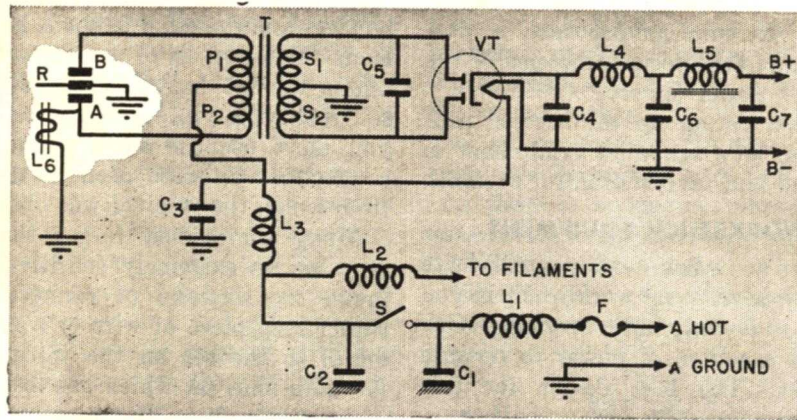

FIG. 30. A typical non-synchronous vibrator type power supply.
Non-Synchronous Vibrator. The circuit of a typical vibrator system is shown in Fig. 30. When switch *S* is closed, the circuit is completed from the storage battery to the tube filaments through choke *L*₂. (Tubes having 6.3-volt filaments are used, with the filaments in parallel.) The vibrator supply and rectifier tube filament current flows through *L*₃.
33) is similar to that described for Fig. 30. Current flows through choke L_1 , through primary winding P_2 , and through coil L_3 . Coil L_3 attracts the vibrating reed R . When the moving reed touches the contact going to 4, coil L_3 is short-circuited and the reed flies back to the other side.